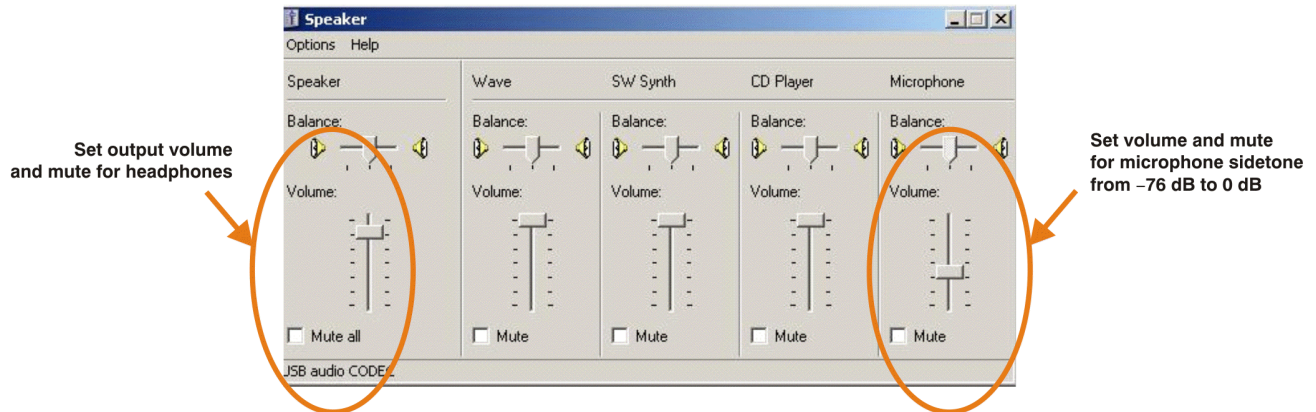

Figure 3-9. Speaker Window for Volume Setting (Windows XP)
2. Set the volume and the mute levels for the microphone sidetone from -76 dB to 0 dB, as shown in Figure 3-9. The initial volume setting upon installation is approximately -8 dB.